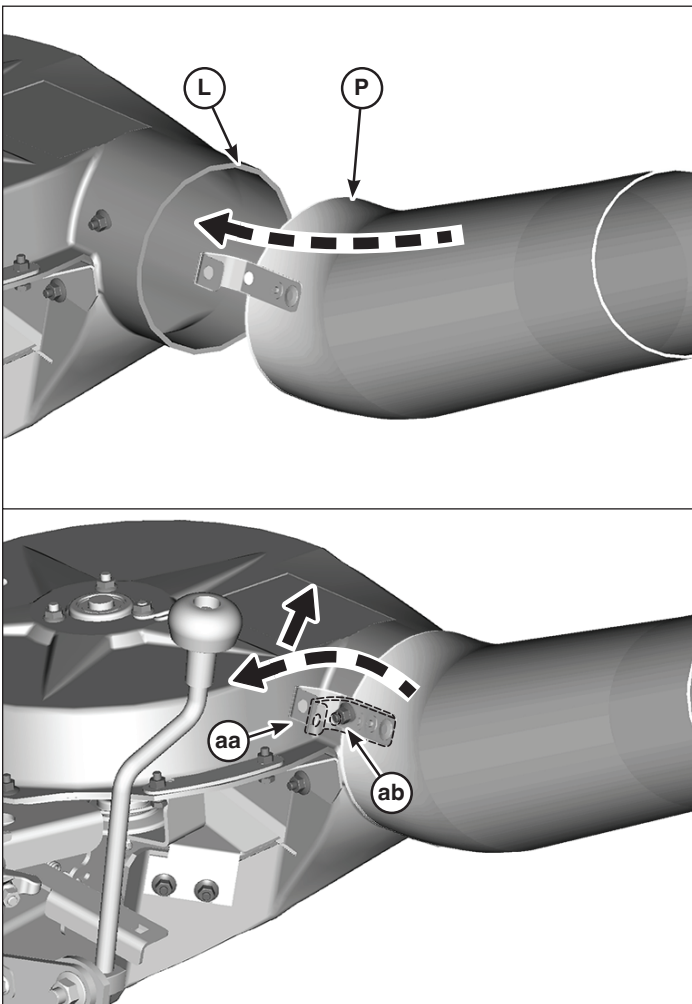

Figure 24
- Slide intake end of lower tube (P, Figure 24) onto outlet of turbo (L).